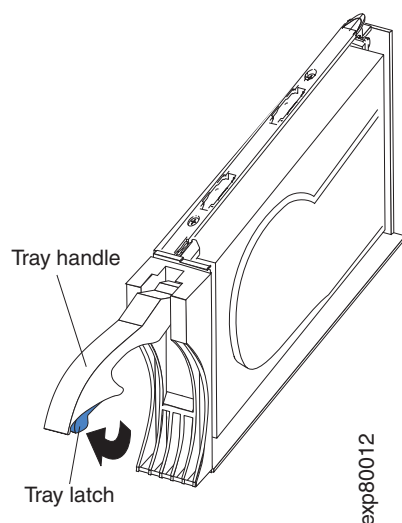

Figure 35. E-DDM FRU handle
- b. Pull the handle on the tray out so that it is in the open position, as shown in Figure 35.
- a. Release the latch on the E-DDM FRU by pressing on the inside of the bottom of the tray handle, as shown by the arrow in Figure 35 on page 74.